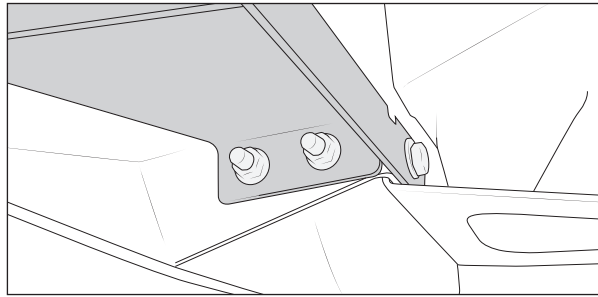

*Figure 29*
7. Remove bottom inside bolt from bumper bracket/reinforcement plate on both sides (fig. 29).